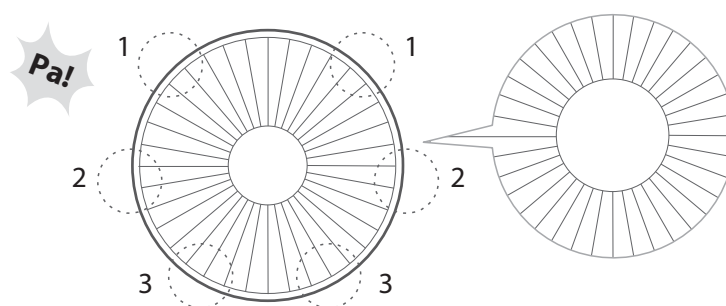

Fig.4
3.2 Press the grill in both hands in sequence, and when it is installed, you will hear a click.(Fig. 4)